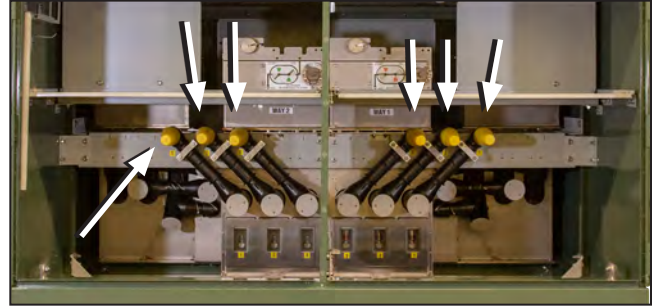

Figure 7. Remove the shipping covers from the 600-ampere bushing (yellow) or 200-ampere bushing wells (orange).
STEP 1. Remove the shipping covers from the 600-ampere bushings (yellow) or 200-ampere bushing wells (orange). See Figure 7.